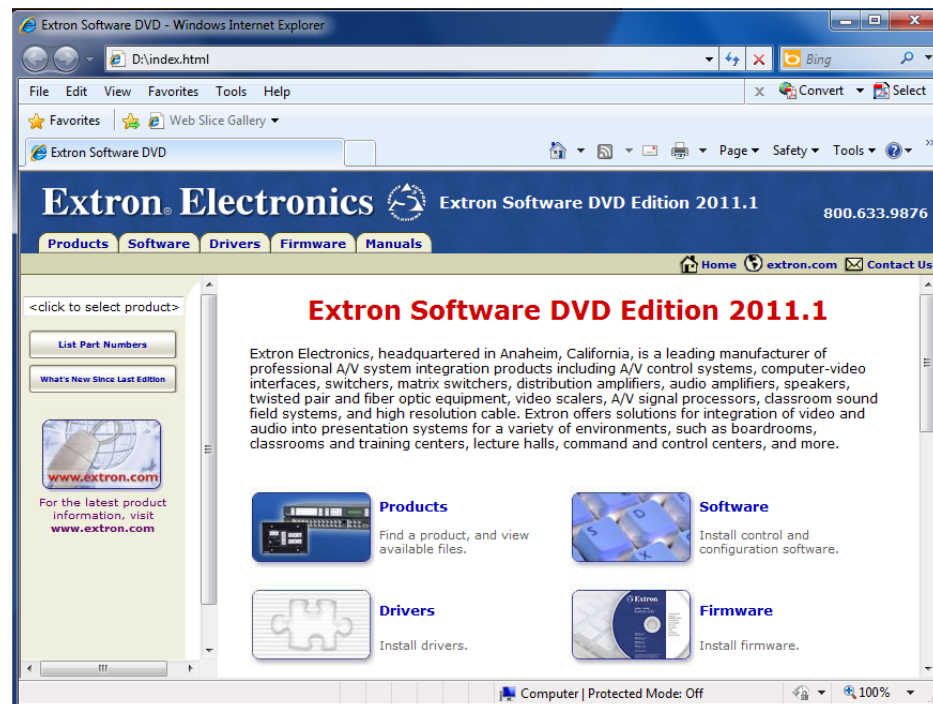

Figure 16. Software DVD Window
The Extron software DVD window appears (figure 16).
2. Click the **Software** tab (figure 16).